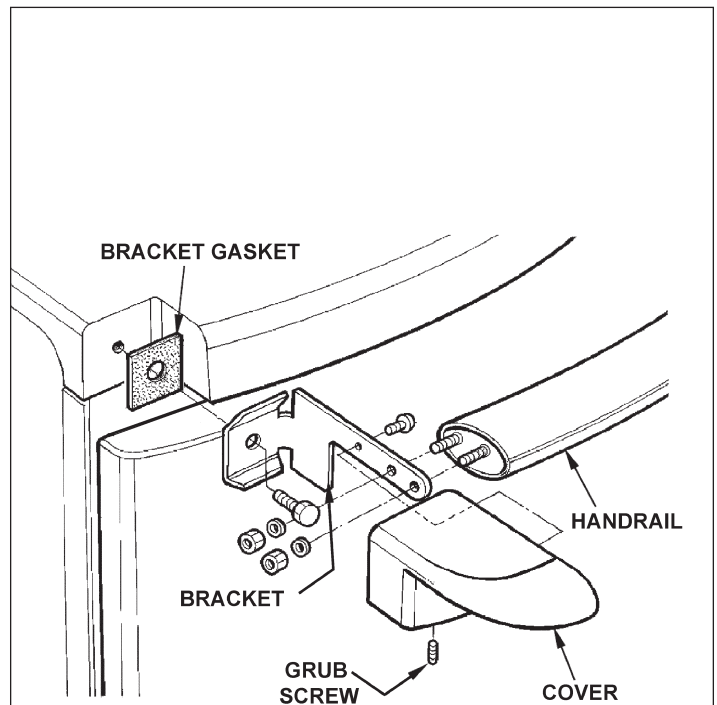

FIG. 17
4. Fit handrail assembly (See Fig. 17) as follows: